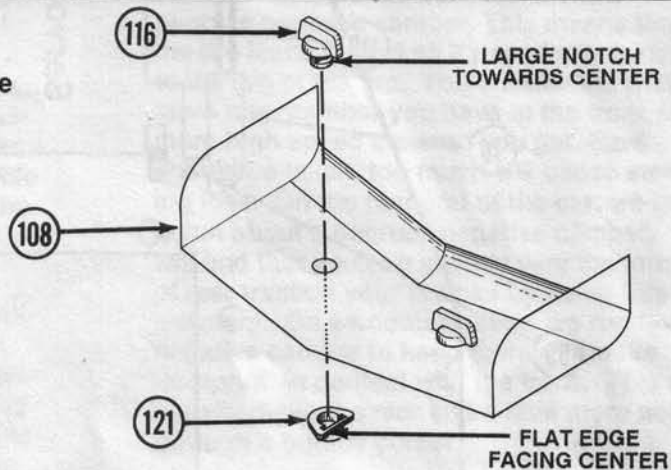

FIG. 43
3. Insert the male top wing button (116) through the top of the wing (108) and snap into the female bottom wing button (121) so that the flat, wire holding edges, are pointing inward toward each other. The top wing button (116) is turned so that the large notch is also pointing inward as shown in Fig. 43.